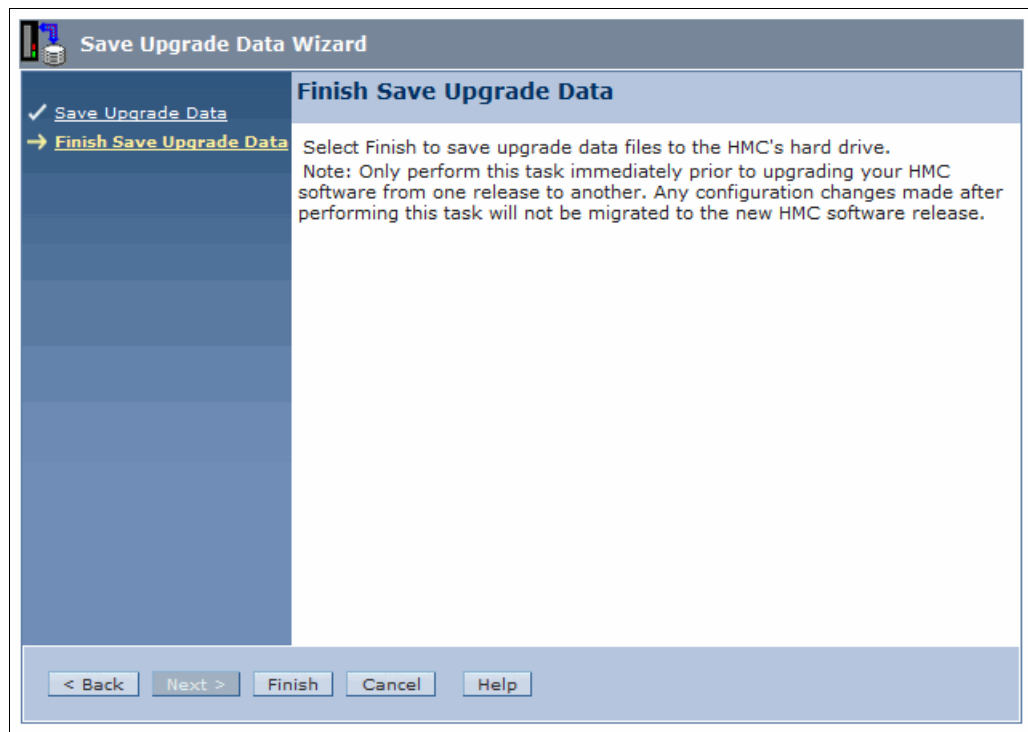

Figure 3-125 Finish the Save Upgrade Data task
3. Click **Finish** to confirm (Figure 3-125).